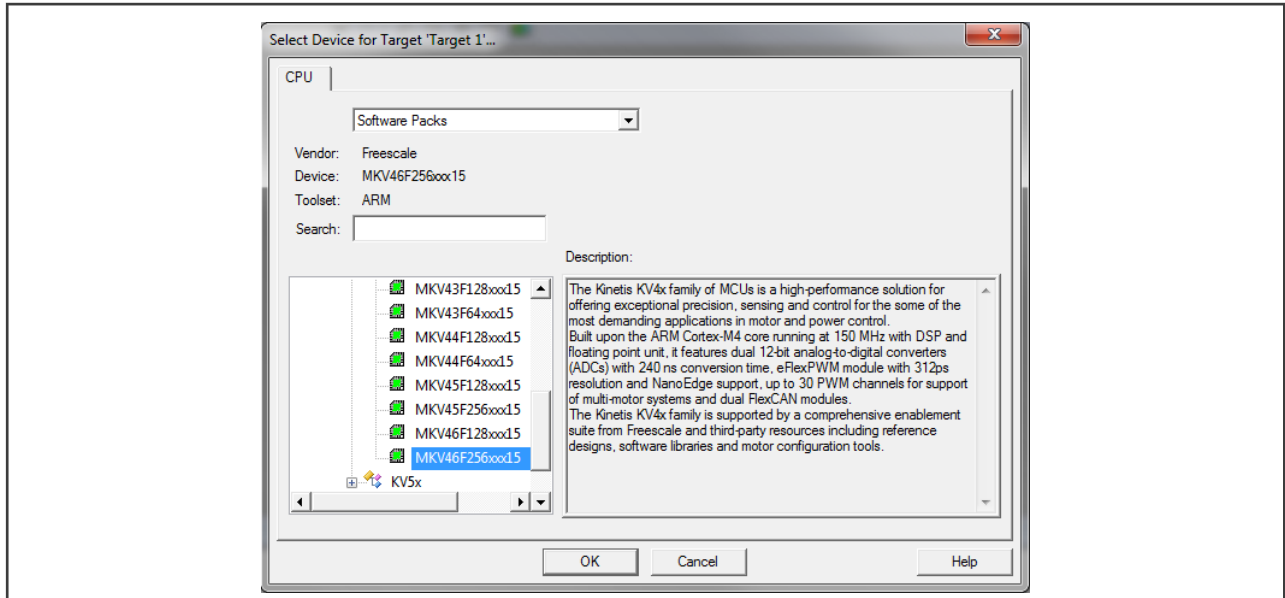

Figure 7. Select Device dialog
7. Click the MKV46F256xxx15 node, and then click OK. See Figure 7.